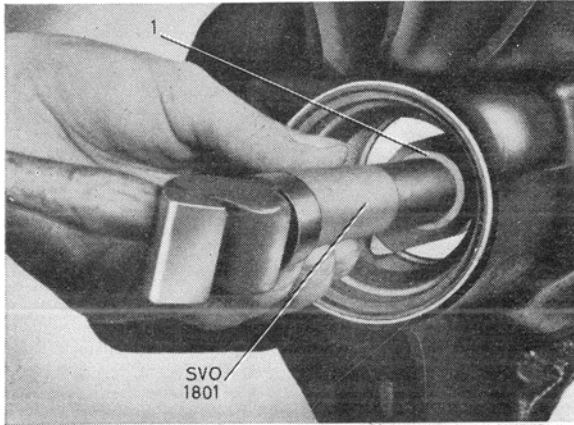

Fig. 11. Removing the bearing ring.
5. Drive out the bearing outer rings, fig. 11. Use tool SVO 4063 for the forward and SVO